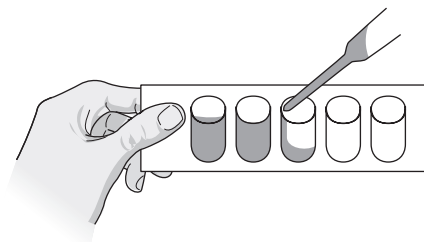

FIG. 20.6. Inoculation of API 20 E.
3. Draw up several mls of the saline solution into a disposable Pasteur pipette and fill the bottom portion of all 20 of the microtubes. This is best accomplished by holding the tray at a 30- to 45-degree angle with the table, touching the Pasteur pipette to the side of the opening, and squeezing the correct amount of the inoculum into each chamber (Fig. 20.6).